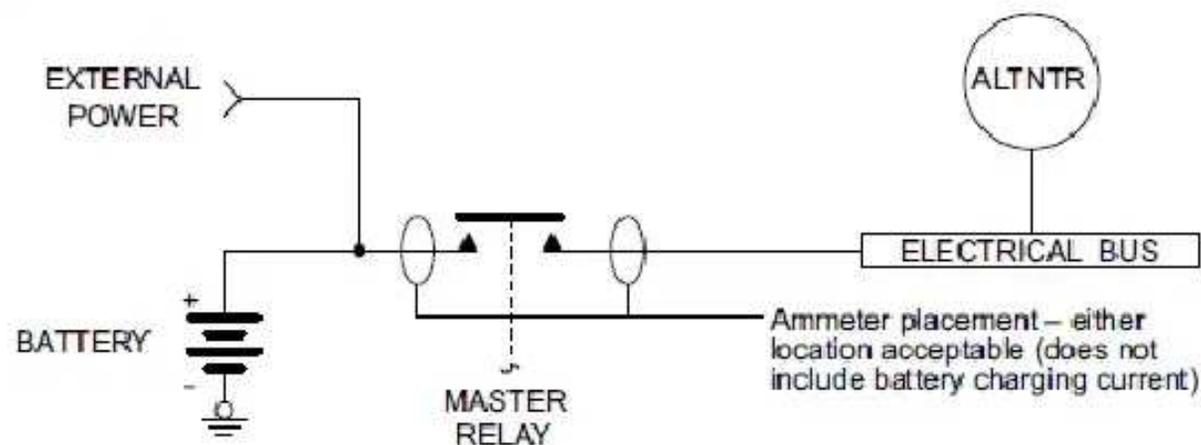

Figure 3-11 – Ammeter Placement for Current Measurements
6. Insert/attach the ammeter in the line from the external power source to the master relay circuit as shown in Figure 3-11. This will eliminate errors due to the charging current drawn by the battery.